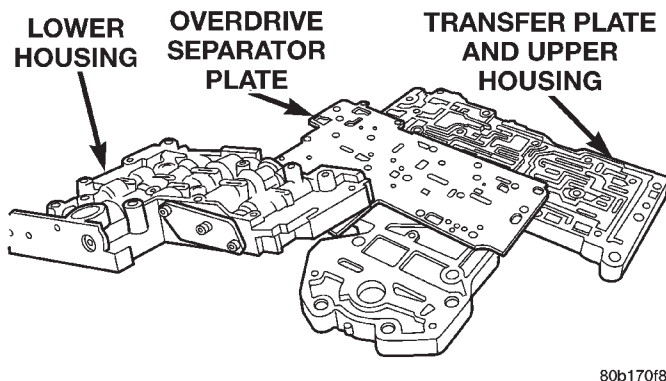

Fig. 57 Lower Housing
(28) Turn valve body over so lower housing is facing upward (Fig. 57). In this position, the two check balls in upper housing will remain in place and not fall out when lower housing and separator plate are removed.
(29) Remove screws attaching valve body lower housing to upper housing and transfer plate (Fig. 57). **Note position of boost valve tube brace for assembly reference.**
(30) Remove lower housing and overdrive separator plate from transfer plate (Fig. 57).